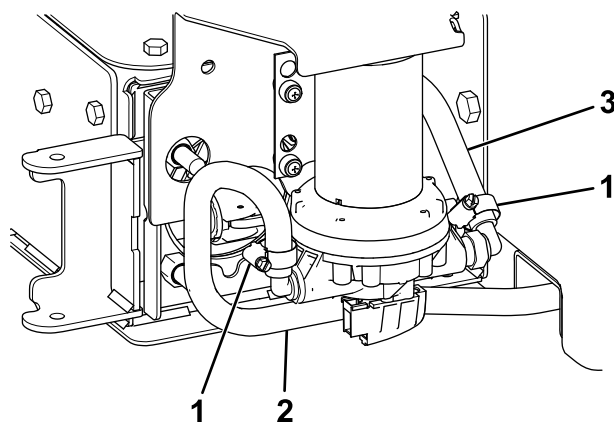

Figure 23
16. Secure the 45 cm (18 inch) hose from the spray nozzle to the hose fitting on the right side of the pump with a hose clamp (Figure 23).
17. Secure the 1.2 m (48 inch) hose to the hose fitting on the left side of the pump with a hose clamp (Figure 23).
18. Route the hose under the frame rail, toward the filter (Figure 23).